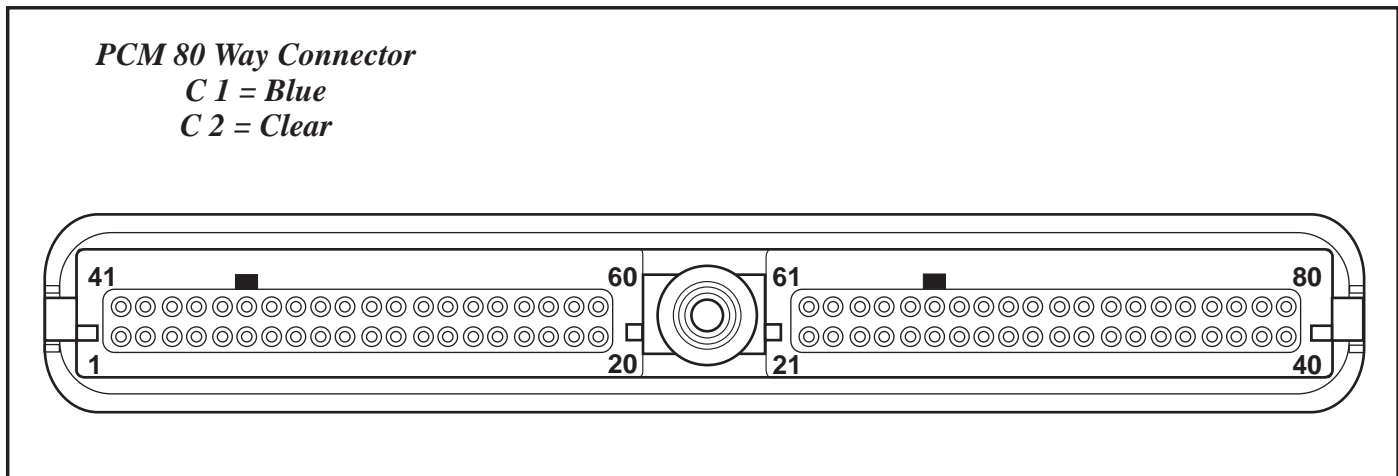

Figure 4
For 98 and newer models, check voltage on wire at terminal 63 in the PCM C2 connector. For 97 vehicles use terminal 75. (See figure 4) If battery voltage is present then repair break in wire or run a new wire to the trans harness connector terminal U. This is usually a yellow wire from the PCM to the trans harness connector.
*Refer to Figure 4 for channel plate differences and channel plate check ball locations.*